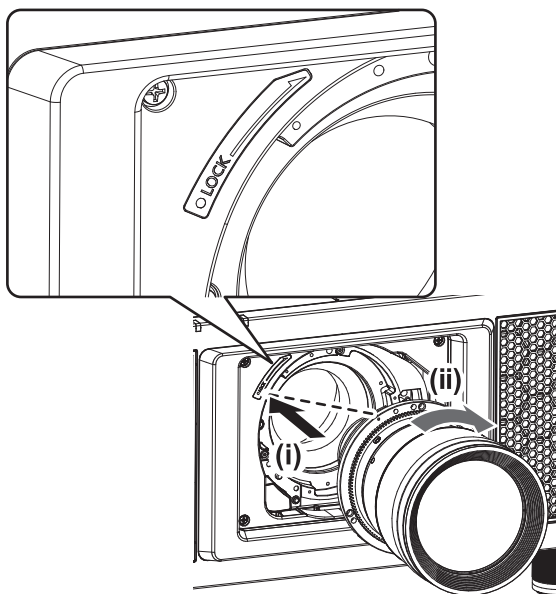

Fig. 1
- 1) Insert the projection lens by aligning the mark on the projection lens (orange) with the mark on the projector (○ to the left of LOCK) and turn clockwise until it clicks. (Fig. 1)